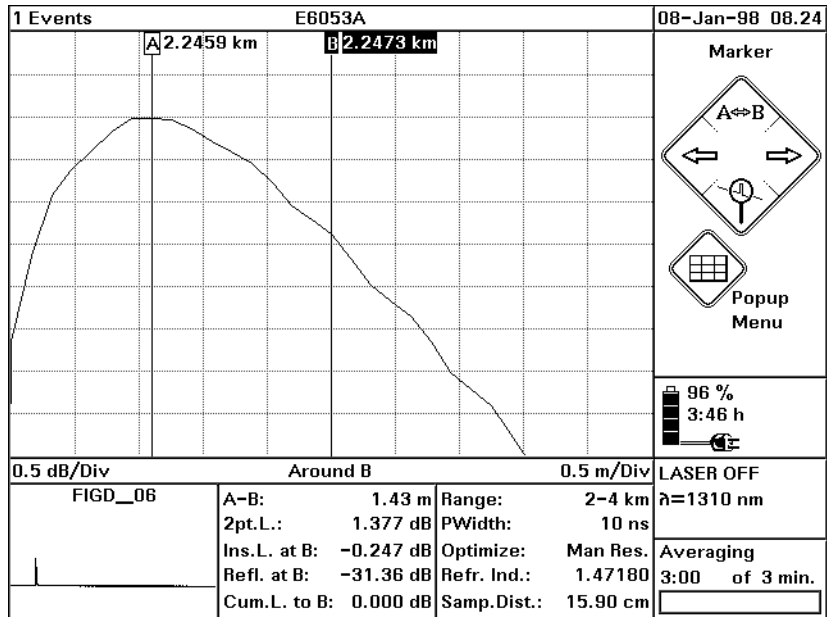

Figure D-6
- 17 Use the LEFT/RIGHT keys to position marker B where the down slope of the reflection crosses the horizontal center line of the graph. See Figure D-6.